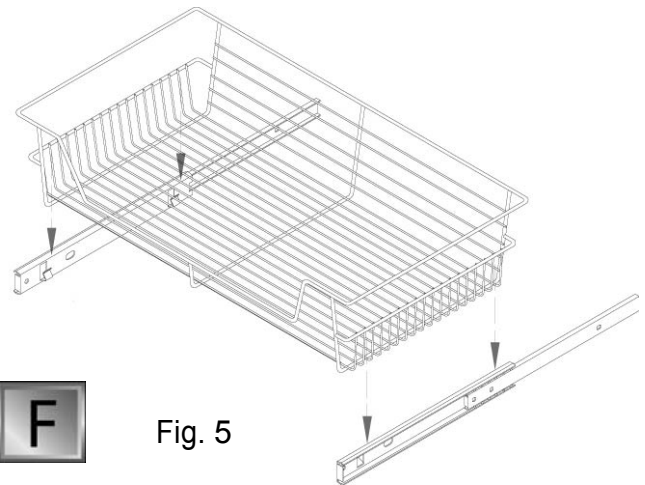

Fig. 5
4. **S** **F** After mounting all slides in place and positioning the shelving tower(s) in final location, hang basket(s) on clips/hooks (Fig. 5) from second (lower) rim of basket. (Fig. 6 shows close up of clip/hook on basket rim. Clip/hooks have plastic removable “stays” to hold baskets in place on hook.)